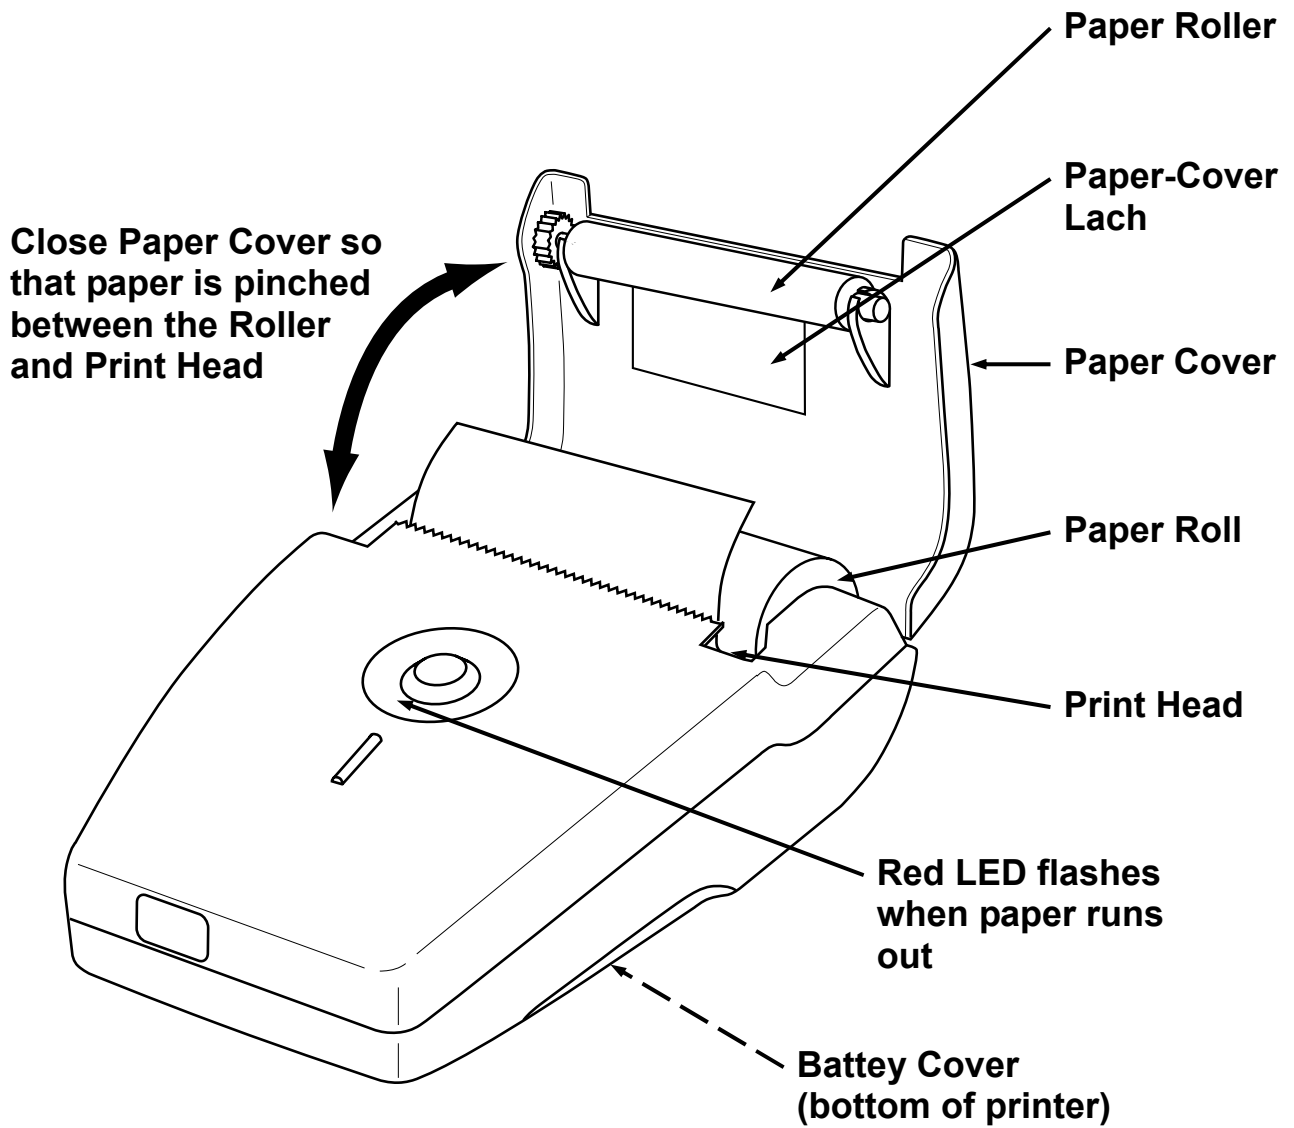

Figure 3. Maintenance
1. Lift up paper cover latch, and then open paper cover as shown in Figure 3.